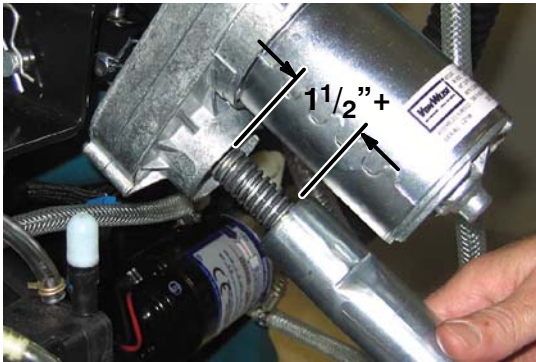

FIG. 5
- 3a. Turn the tube until the distance between the top of the tube and the gearbox is $1\frac{1}{2}$ in / 38 mm or more (Fig. 5).